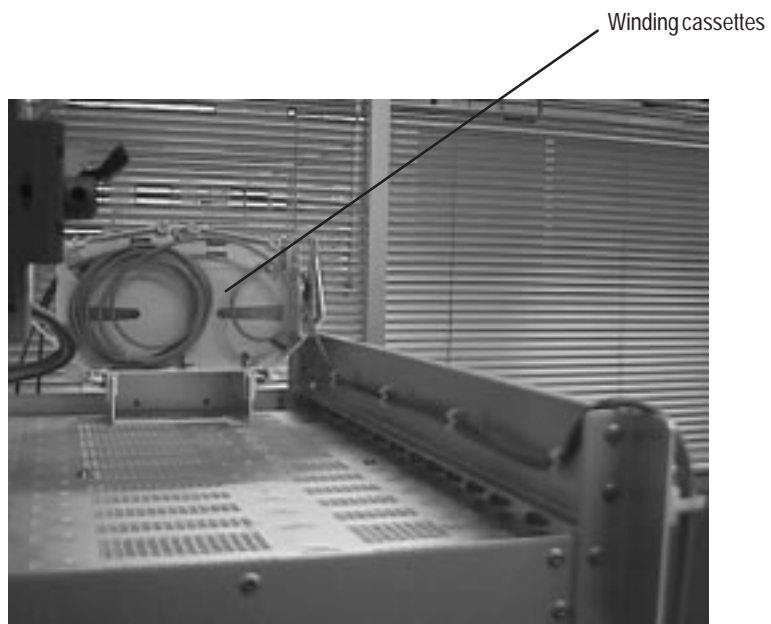

Figure 36 – DBS fiber optic winding cassettes
2. Connect the fiber optic jumpers (see Figure 36 and Figure 37) and the main cables.